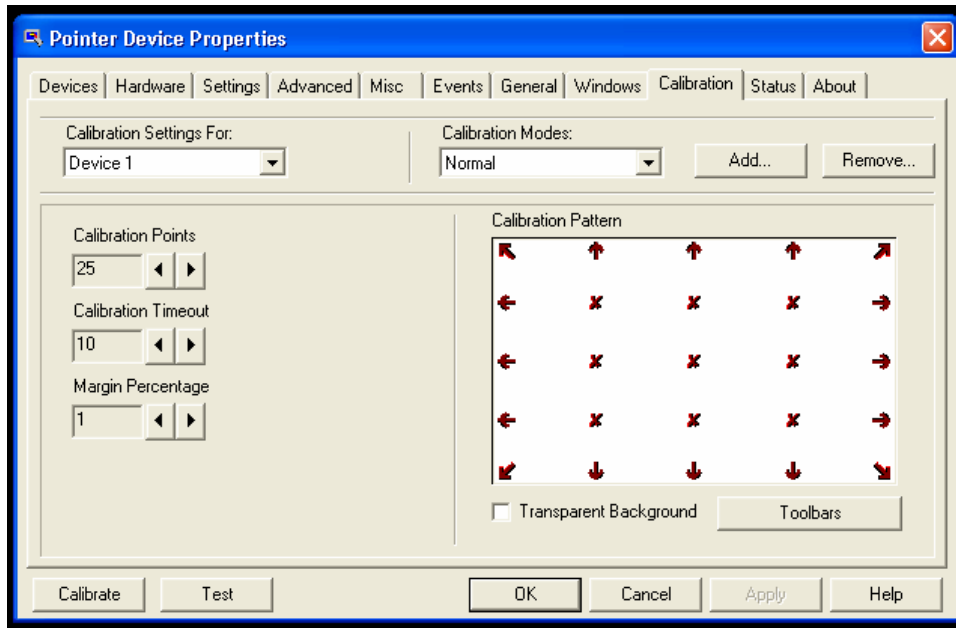

Figure 6
- 9.) Once the calibration is finished, click **OK** on the **Device Pointer Properties** window to close it. (Figure 6)